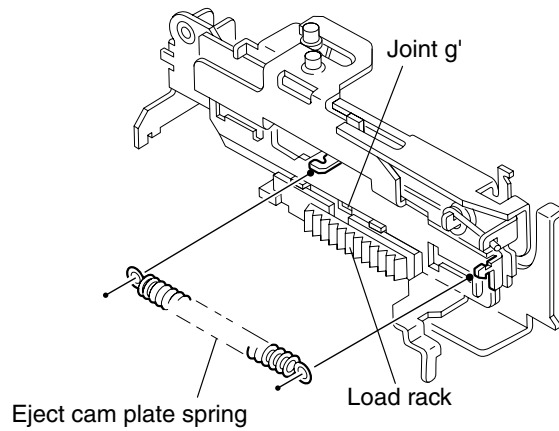

Fig.37
■ Removing the side bracket assembly (See Fig.37 to 41)